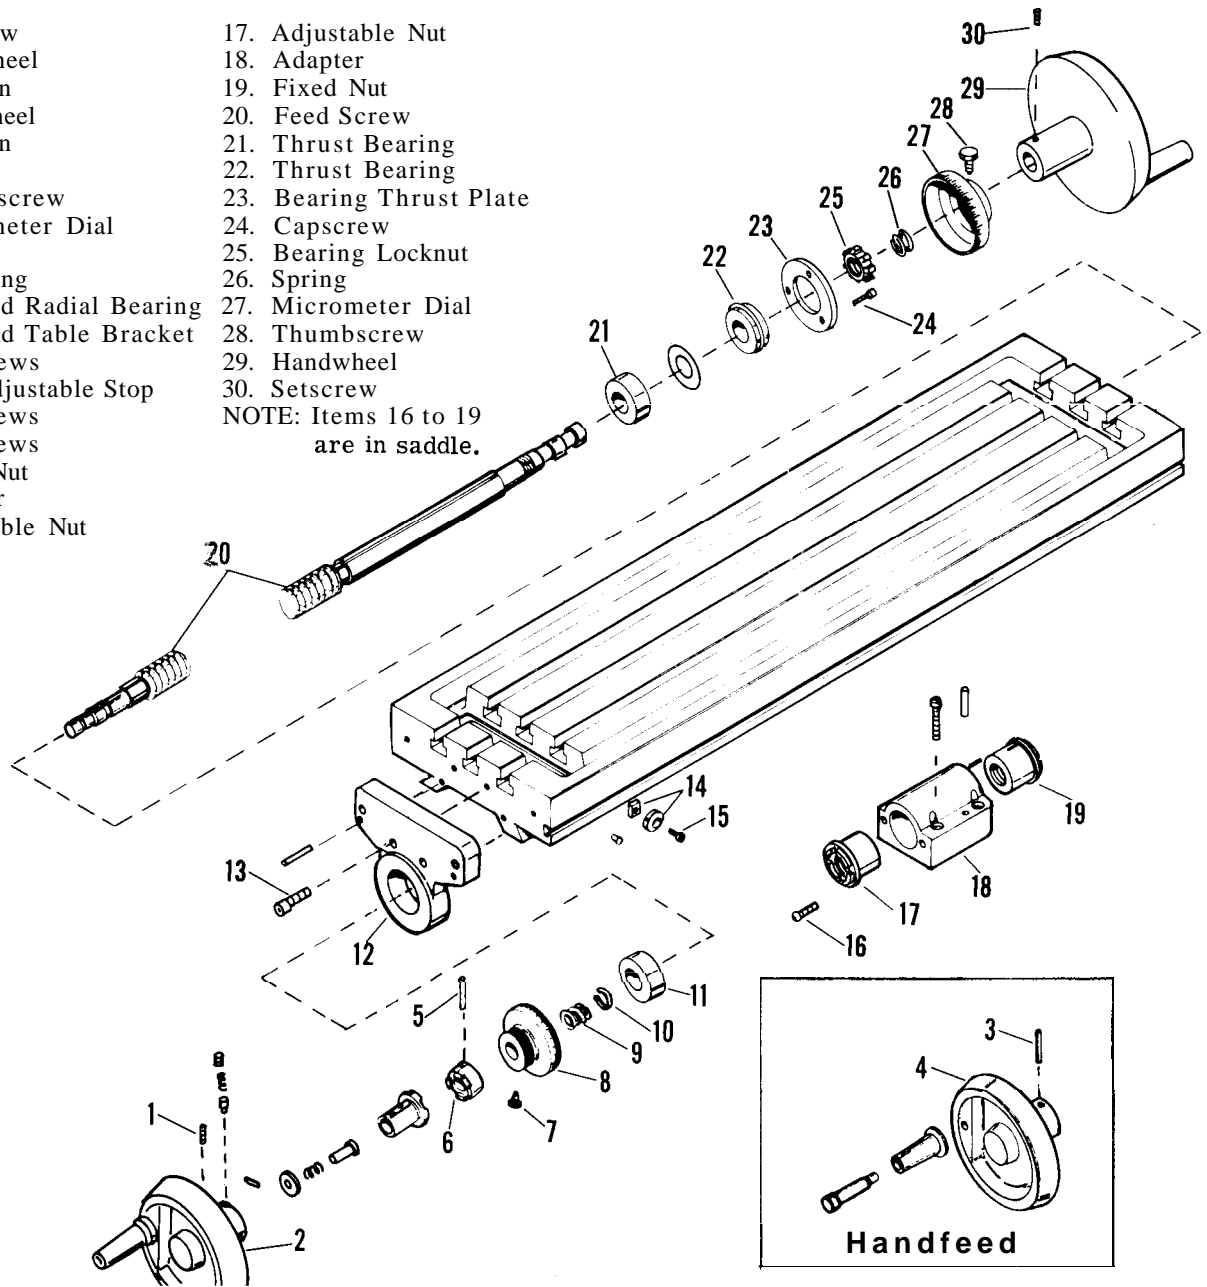

Figure 9. Longitudinal Feed Screw, Bearings and Saddle Nuts
28. LONGITUDINAL FEED SCREW, BEARINGS AND SADDLE NUTS--POWER FEED (figure 9)
12. The left end radial bearing (11) can now be removed from the left table end bracket (12).
13. To remove the saddle nuts proceed as follows: (figure 9).
A. Take out the four capscrews (13) and remove the left table end bracket (12).
B. Remove the left adjustable stop (14) by taking out the capscrew (15). This will allow the table to be moved to the right to expose the fixed (19) and adjustable (17) nuts.